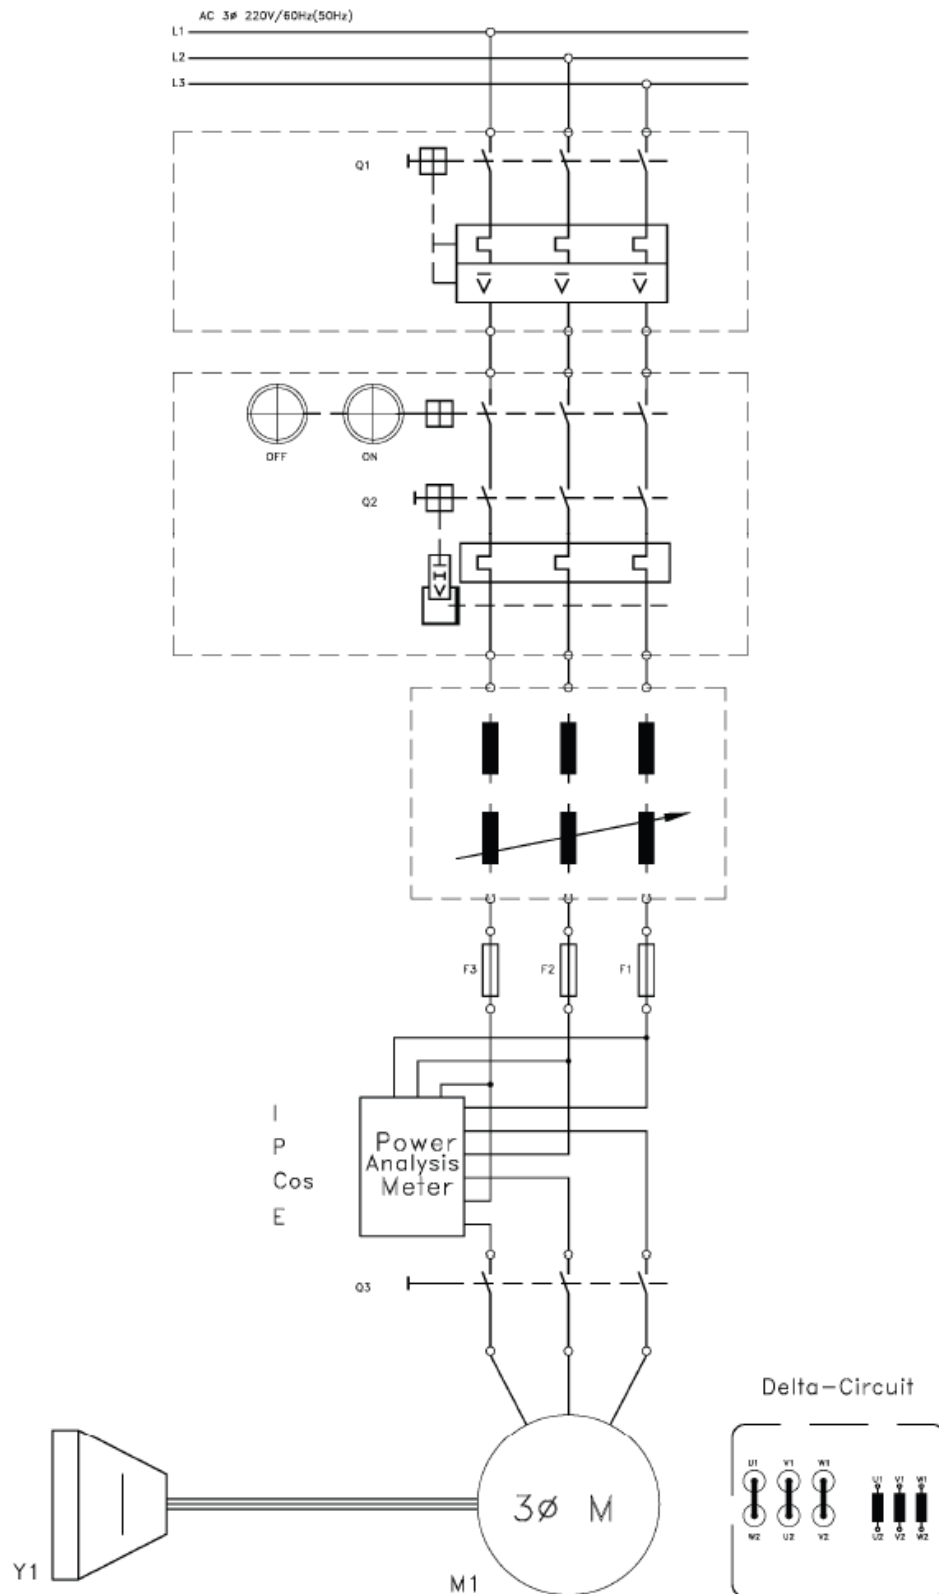
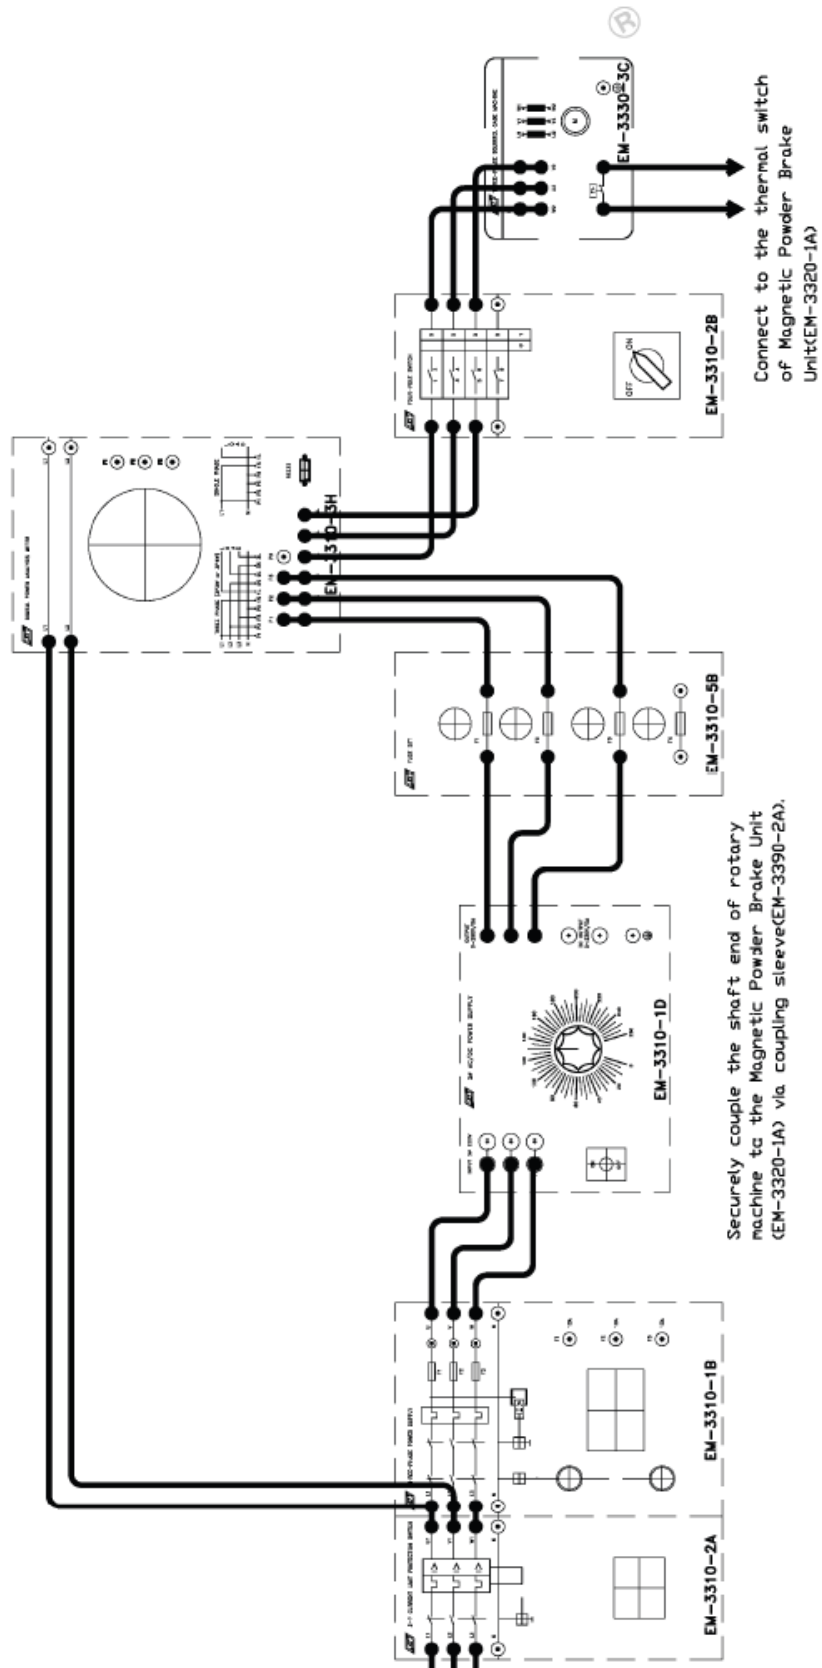

Fig. 12-5-1 Circuit diagram for blocked-rotor test
Fig. 12-5-2 Connection diagram for blocked-rotor test
2. Install the required Modules in the Experimental Frame. Construct the circuit in accordance with the circuit diagram in Fig. 12-5-1 and the connection diagram in Fig. 12-5-2. Have the instructor check your circuit. **Note:** The thermal switches of Three-Phase Squirrel Cage Induction Motor and Magnetic Powder Brake Unit must be connected together.